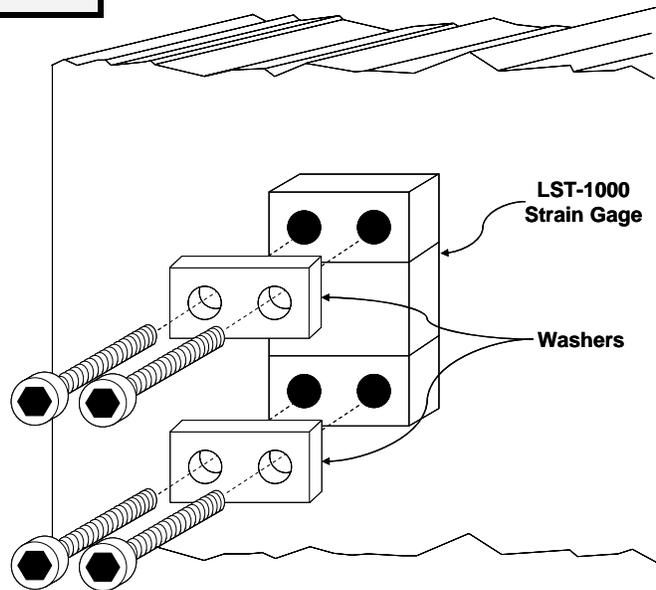

Figure 33: LST-1000 Strain Gage Mounting
- 7) Mount the strain gage as shown in Figure 33. Make certain that the washers provided with the strain gage kit are placed **over** the strain gages, **not under them**. Torque the 1/4 x 28 bolts to 150 in-lbs. A calibrated torque wrench is the preferred tool to torque the bolts.